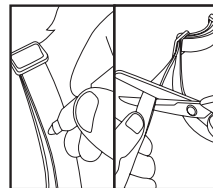

Fig. 7
3. After you have adjusted the collar to the correct size, you can cut off the excess length (Fig. 7).